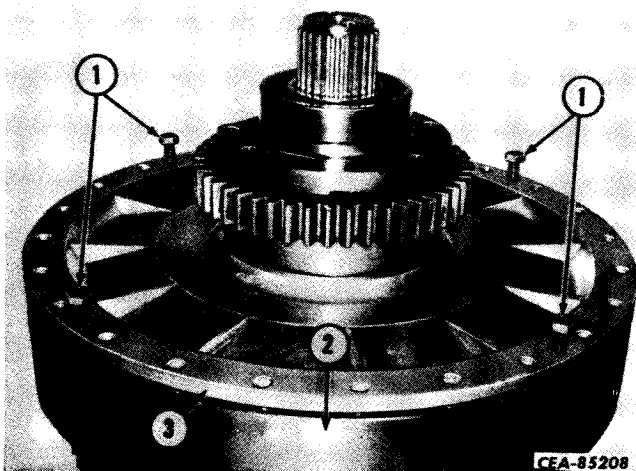

Figure 3-10
Use four of the cap screws as jackscrews (1, Fig. 3-10) in the threaded holes provided in the impeller wheel (3). By rotating the jackscrews evenly the impeller wheel and rotating housing (2) will be separated.